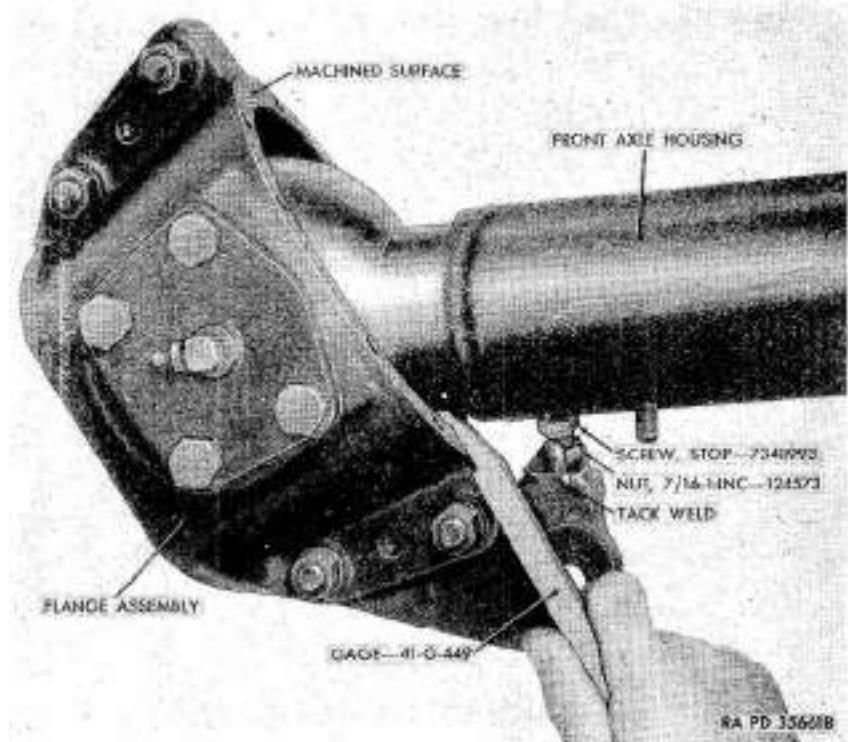

Figure 69. Checking turning radius.
g. Adjustment of Turning Radius (fig. 69) . Check the turning radius by placing gage 41-G-449 between the flange assembly and axle housing (flange oil seal assembly removed) . Turn flange until the gage restricts further movement. If adjustment is necessary, break the weld and install a new stop screw and 7/16-14NC nut. With gage in position, adjust the stop screw so that it bears against axle housing and tighten nut. Tack weld stop screw and nut to flange assembly.